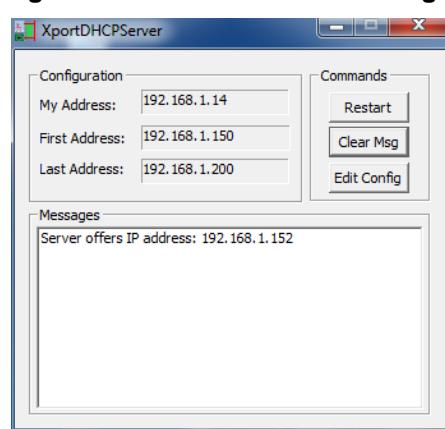

Figure 5 DHCP server program
| Figure 5 DHCP server program | 8 |
- See Figure 5.